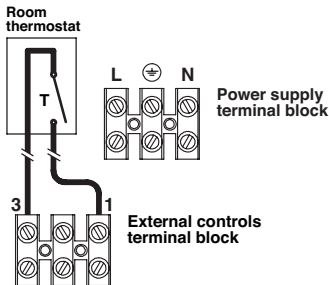

Fig. 6.17
- Connect the room thermostat between terminals 1 and 3 as shown in Fig. 6.17.